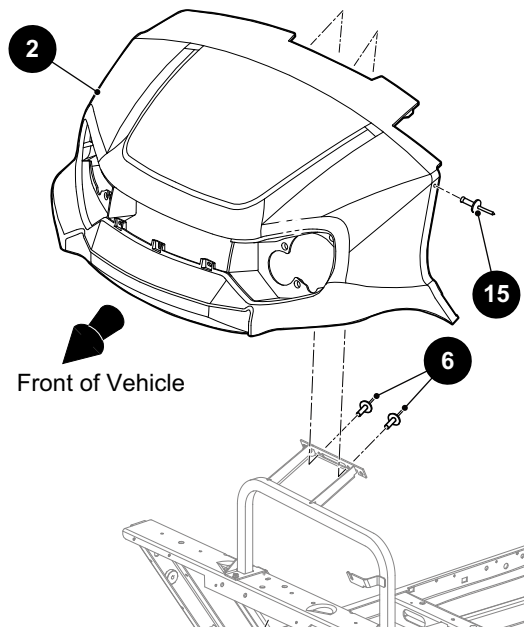

Figure 6 Cowl Replacement
Drill out two rivets (6) across top of instrument panel (1) that secure the instrument panel to the cowl (2)(Figure 6).